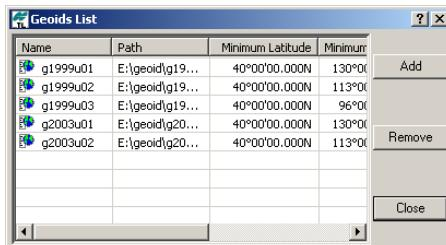

Figure 3-38. Geoids List
4. Click **Close** (Figure 3-38).